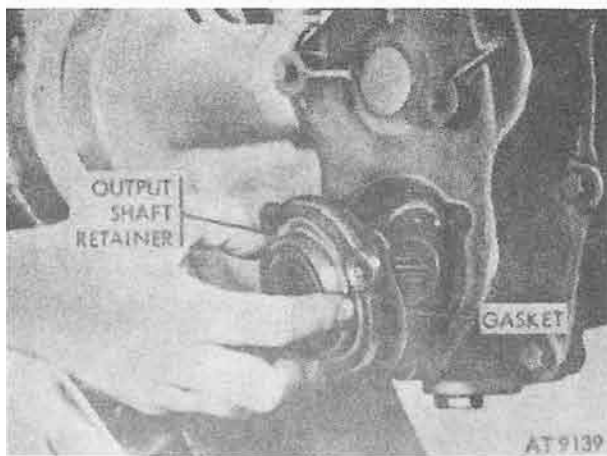

Figure 8-6. Transfer rear output shaft retainer and gasket.
f. Remove three retaining screw-and-washer assemblies and remove output shaft retainer and gasket (fig. 8-6).